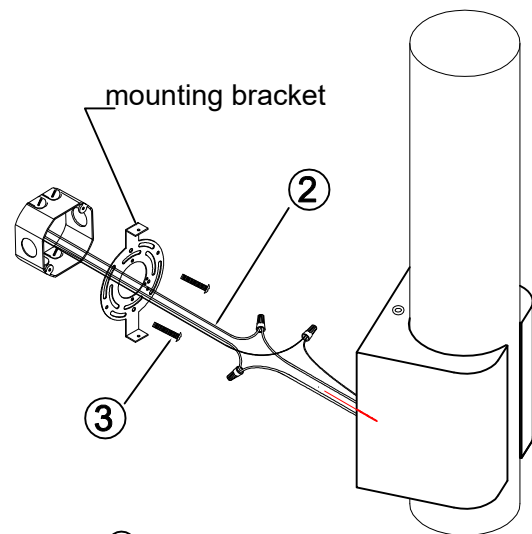

Fig.1
2. Feed the wires from wall through mounting bracket (Fig.1).